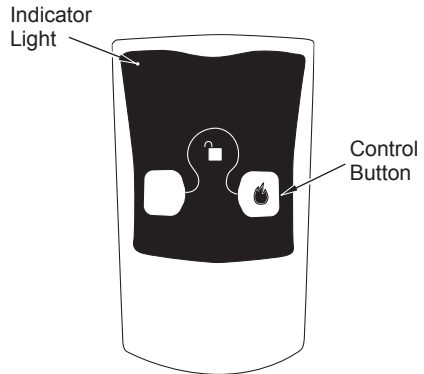

Figure 41 - On/Off Hand-Held Remote Control Unit HRC100
2. Press the control button on the hand-held remote to turn the burner on. Press the control button again to turn burner off (see Figure 41).